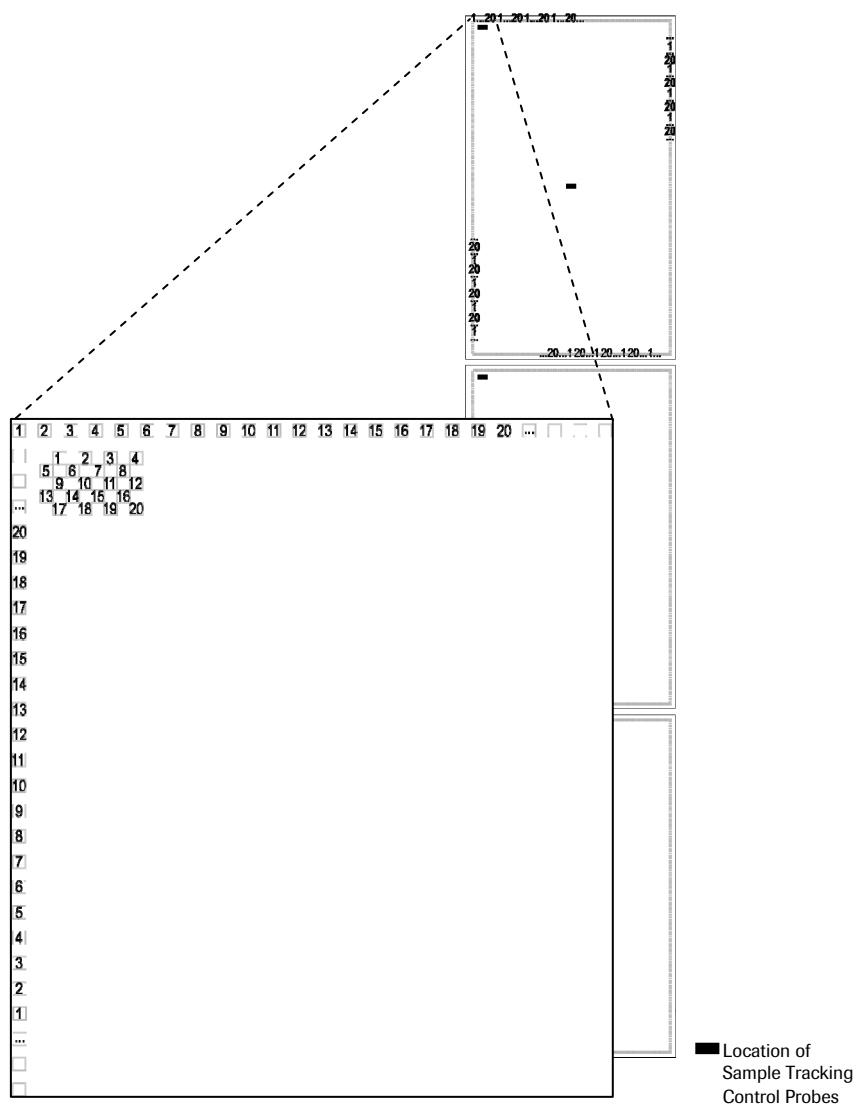

Figure 23: Location and Numbering of Sample Tracking Control Probes on a 3x720K Array
A unique STC should have been added to each experimental (IP) and control (input) sample pair prior to loading onto 4x72K or 3x720K arrays as described in Chapter 4, Step 1. This control hybridizes to probes on the microarray and enables you to confirm the sample identity on each array and ensure integrity of the experiment. STC probes are placed as repeating sets of 20 along the perimeter of each array and as two 4 x 5 blocks in the upper left corner and in the center of the array (Figure 23). Roche NimbleGen recommends performing a sample tracking analysis (refer to page 42) and visually checking the STC features along the perimeter (refer to page 44) to confirm that the correct sample has been added to each array.
When you run a Sample Tracking analysis, NimbleScan software generates a Sample Tracking report based on signal intensities of features in the two 4 x 5 blocks with Sample Tracking Control probes (Figure 23). Using this report and sample records from your experiment, you can confirm the intended sample was hybridized to the intended array.